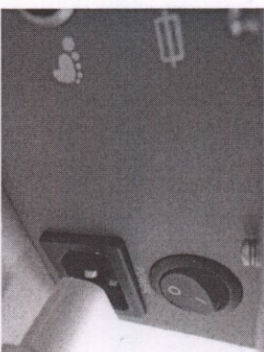

Figure 1
2. Make sure the proper power supply (230V or 115V) is used with the unit. Plug the power cord into the socket at the rear of the base unit and into the electrical outlet (Figure 1).